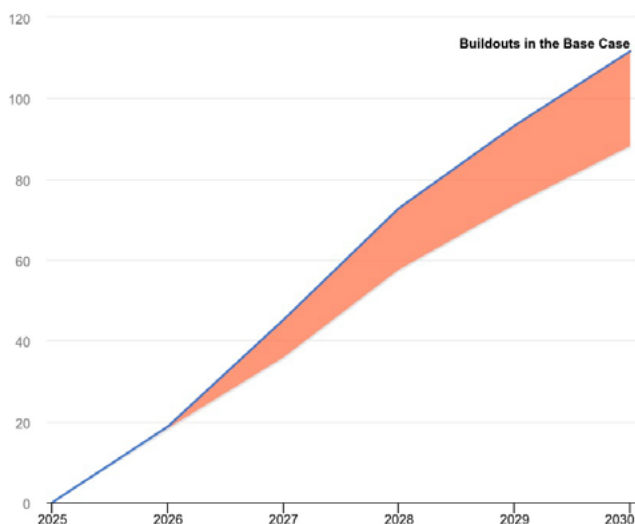

Figure 2: GW hours of data center buildouts facing connection delays²
However, realizing this vision requires solving an upstream problem. In Figure 2, the IEA warns that approximately 20 % of planned data center projects are at risk of delays due to electrical grid constraints and supply chain bottlenecks on conventional transformers². Reducing AI data center build-out duration is essential to mitigate this risk. Accelerated global deployment is increasing procurement and installation lead times for the medium-voltage (MV)